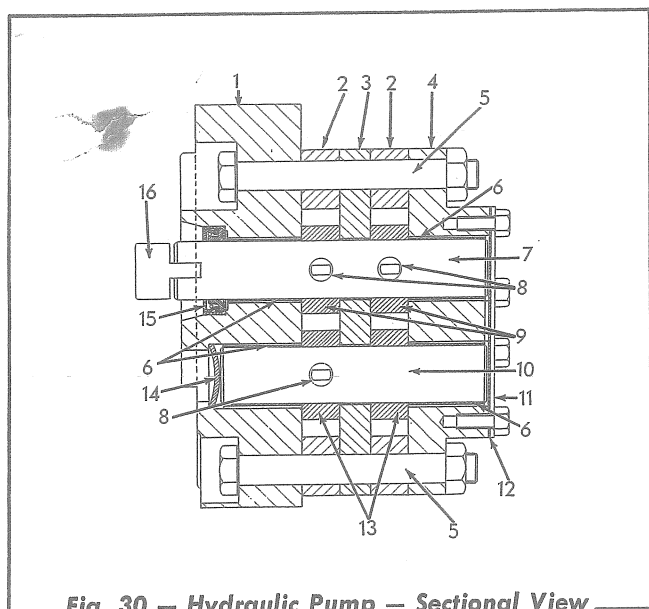

Fig. 30 - Hydraulic Pump - Sectional View
1. **NOTE:** *One end of the front and back plate bushings is slightly undercut on the O. D.; the bushings should be installed with the undercut end facing away from the gears when the pump is assembled.* Press a bushing into each shaft bore of the front plate so that the end of each bushing is .002" to .005" below the inner face (face next to gear) of the front plate. Install the cover plate and gasket and secure with capscrews. Refer to Fig. 30, and drive or press a new expansion plug into the idling gear shaft bore in the back plate. Press a bushing into each shaft bore of the back plate so that the end of each bushing is .002" to .005" below the inner face (face next to gear) of the back plate. The specified I. D. of the bushings when installed is 1.0015" to 1.0025" and the